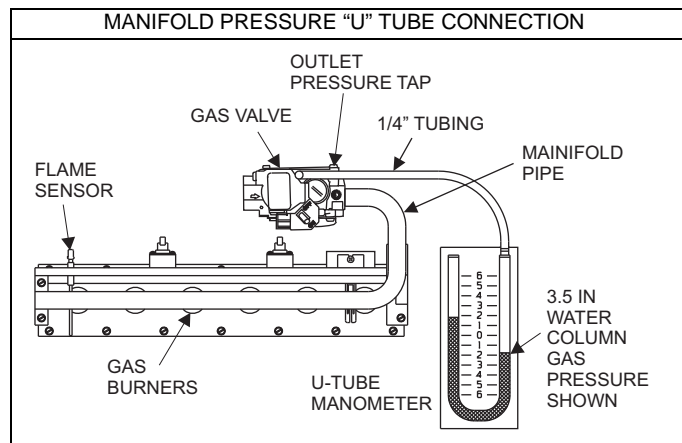

**FIGURE 37:** Gas Valve
Inlet and manifold gas pressure may be measured by connecting the "U" tube manometer to the gas valve with a piece of tubing. Follow the appropriate section in the instructions below. Refer to Figure 37 for the locations of the pressure ports on the gas valve.
Connect the positive side of the manometer to the IN P Tap on the gas valve. Do not connect any tubing to the negative side of the manometer, as it will reference atmospheric pressure. Refer to Figures 37 and 38 for connection details.
Connect the positive side of the manometer to the OUT P Tap on the gas valve. Do not connect any tubing to the negative side of the manometer, as it will reference atmospheric pressure. Refer to Figures 37 and 38 for connection details.
1. Refer to Figure 37 for location of pressure regulator adjustment cap and adjustment screws on main gas valve.